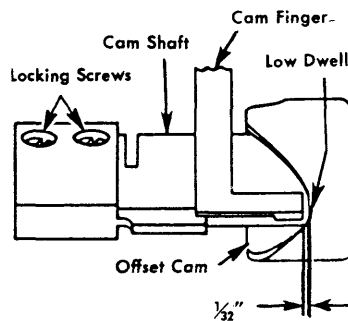

Figure 59. Cam Shaft Positioning
**POSITIONING CAMSHAFT (FIGURE 59)**